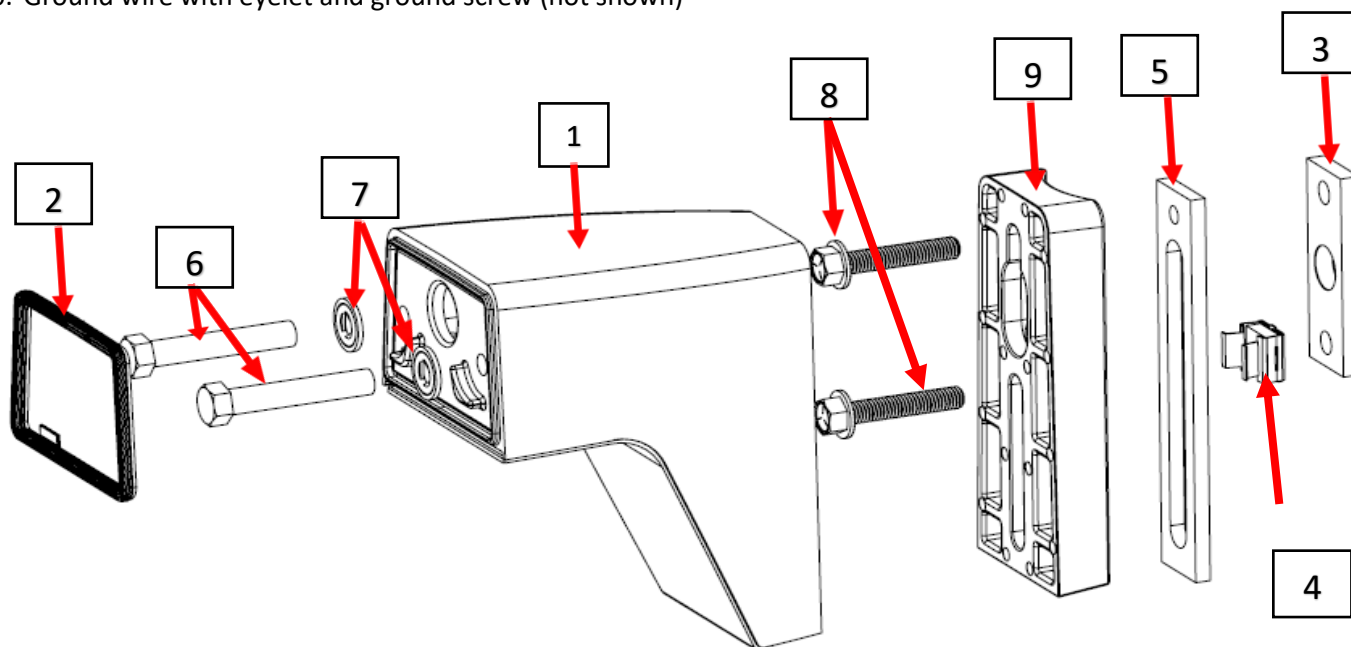

Figure 4 – Pole arm repair kit materials
1. RSX pole arm assembly components (see figure 4)